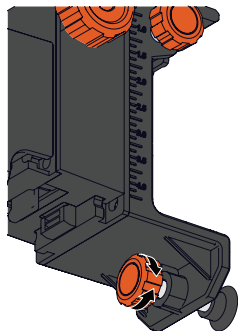

Figure 37
6. The track mount accessory can also be hung on a nail using the mounting hole. Turn the knob on the leveling screw to help ensure the position of the unit is level. The leveling screw has a non-mar rubber foot to prevent damage to surfaces. (Figure 37)